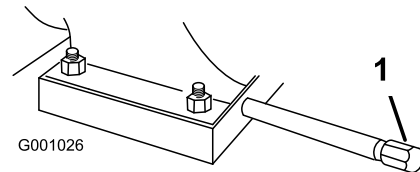

Figure 40
- Clean the area around the oil drain cap (Figure 40).